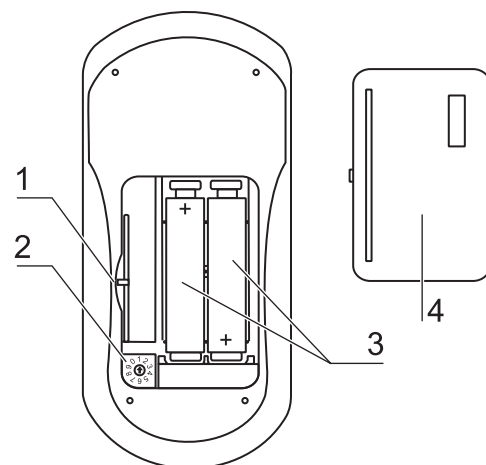

Fig. 11
1. **Fig. 11:** Open the lid [4] of the battery housing at the bottom of the remote control by inserting a pointed instrument into the notch [1] and prying the lid off.